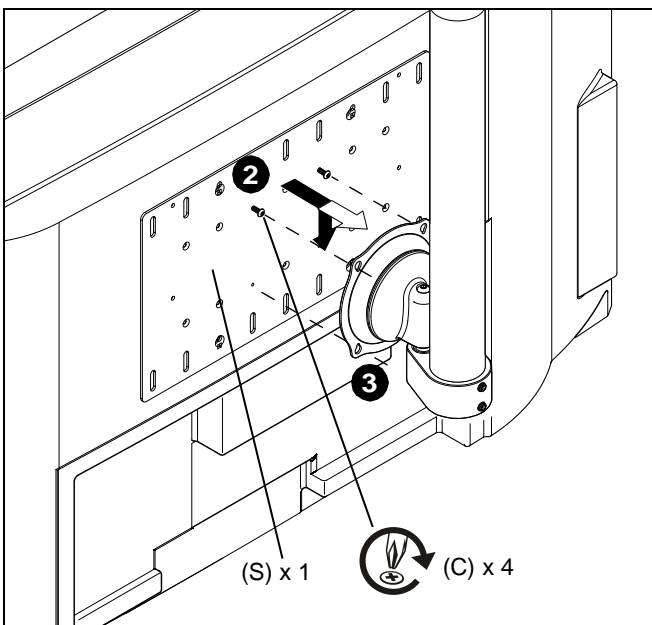

Figure 8
1. Start two Phillips pan head screws (C) into top mounting holes on interface bracket (S). (See Figure 8)
2. Align two screws in interface bracket (S) with upper mounting holes in Centris cup and lower display until screws are seated in lower area of teardrop mounting holes. (See Figure 8)